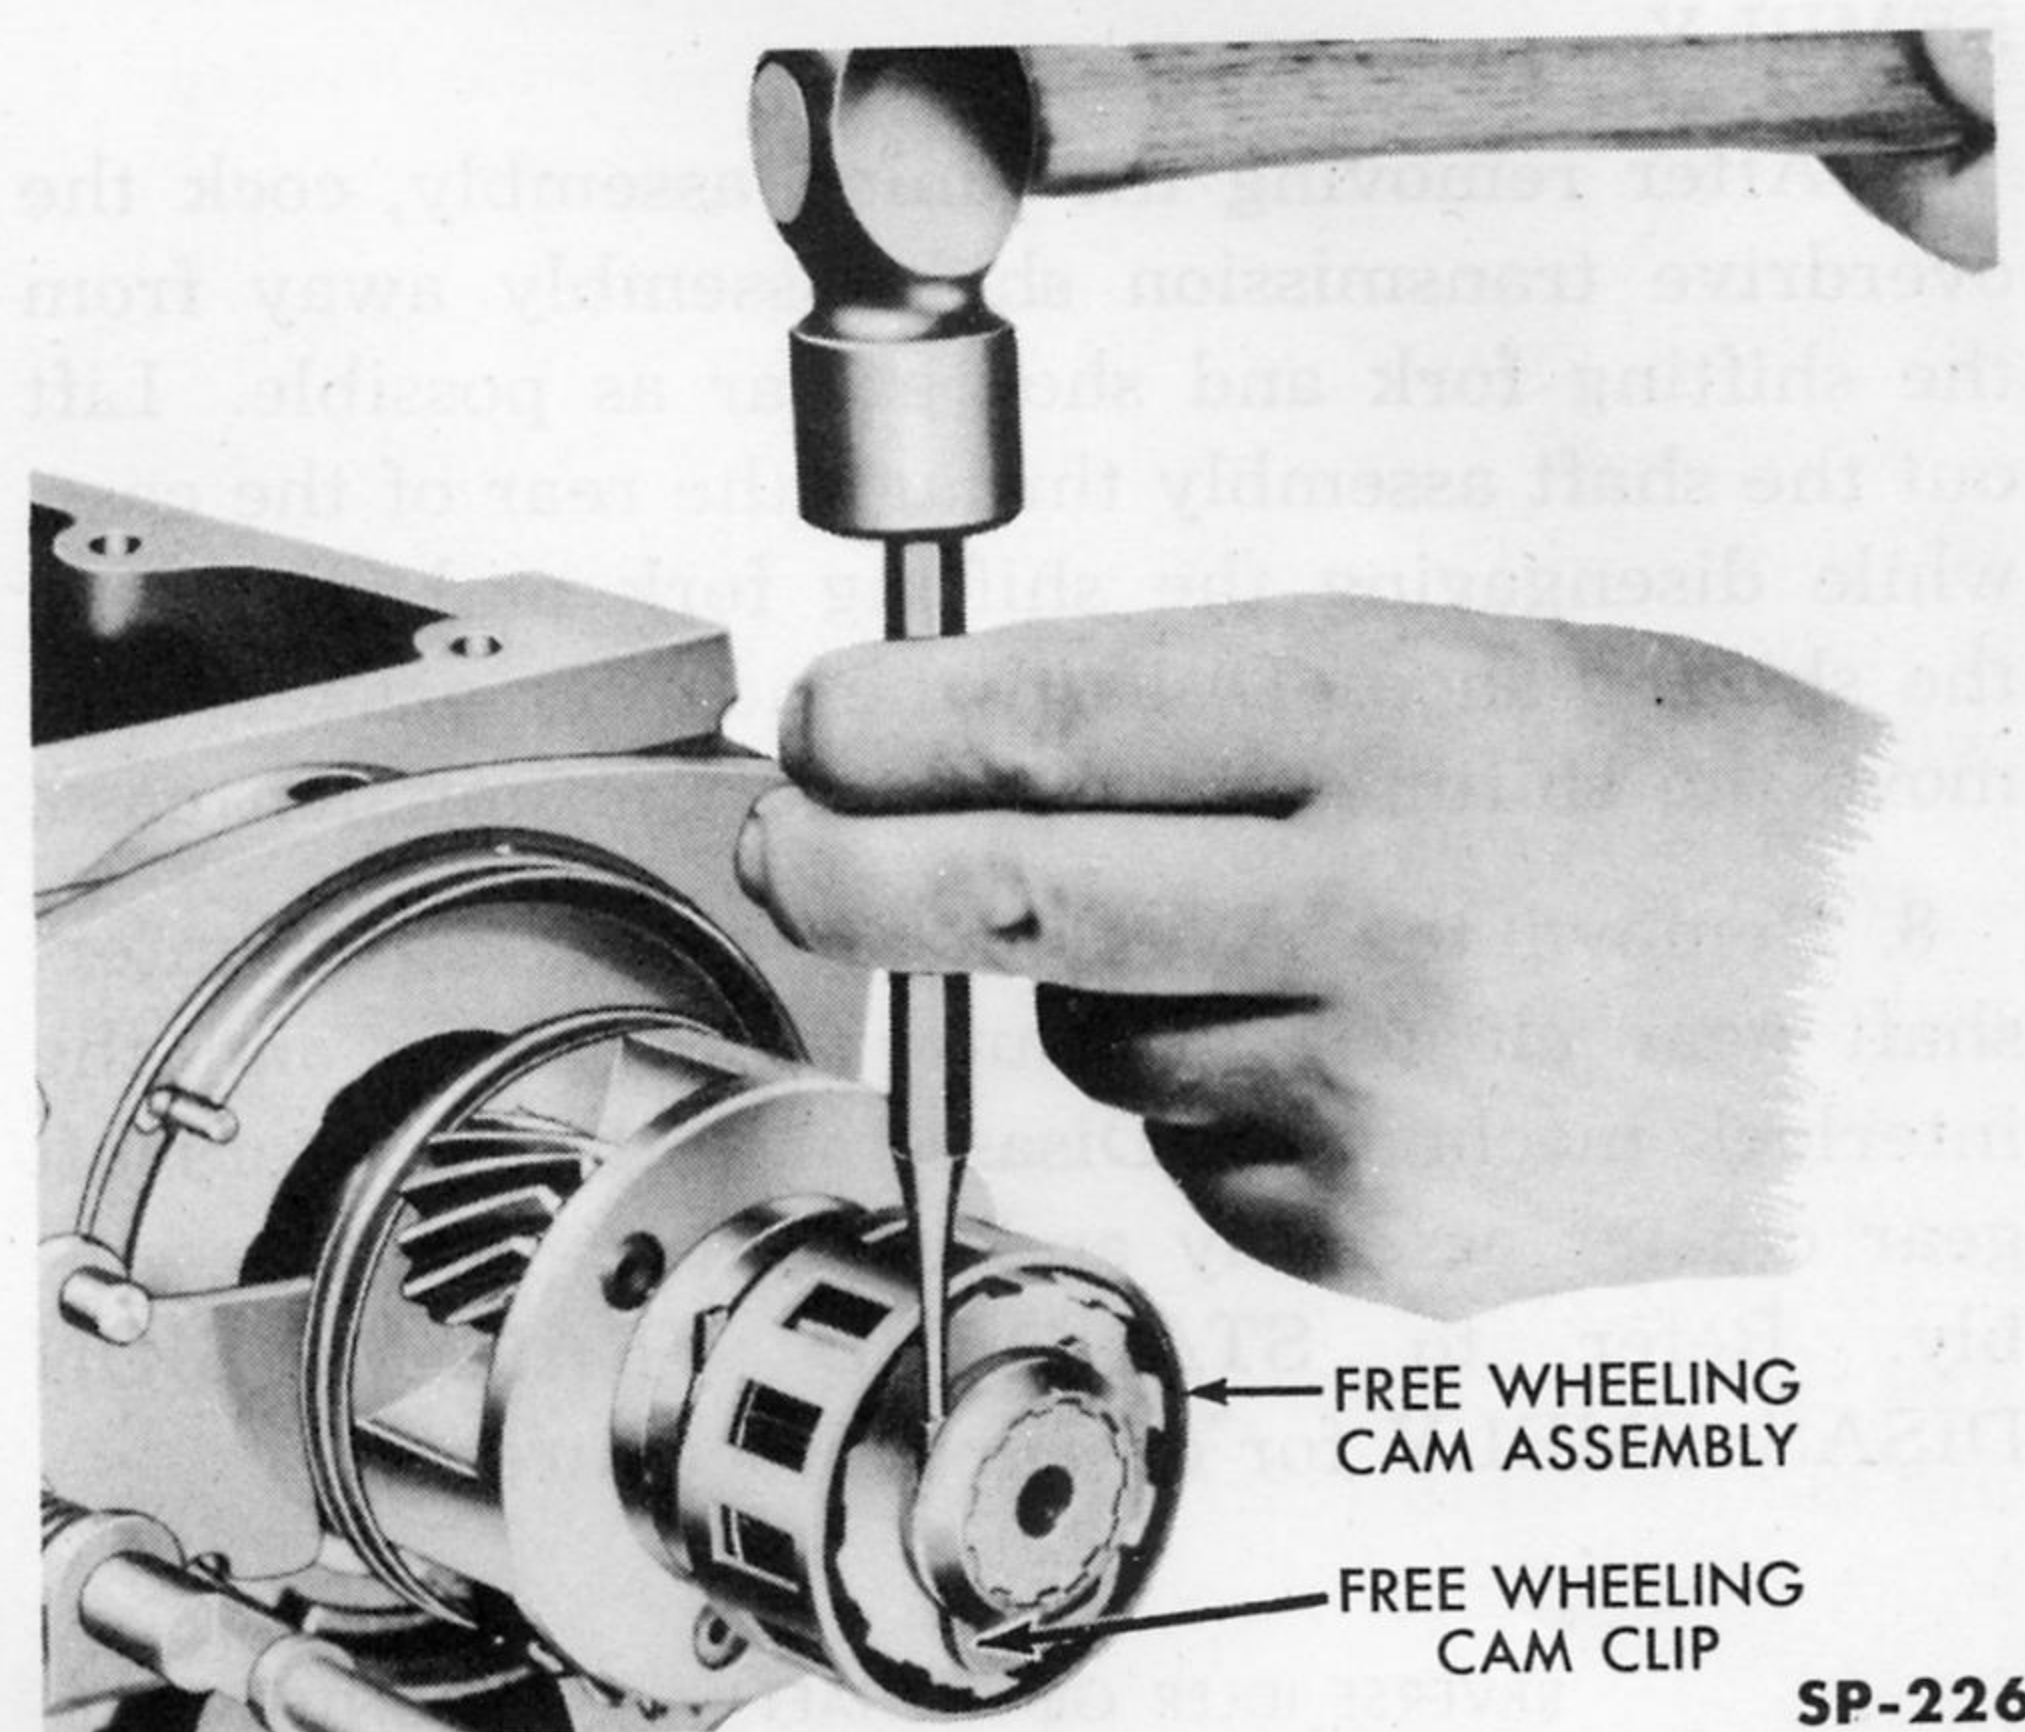

Fig. 215—Removing Free-Wheeling Cam Assembly
11. Remove the free-wheeling cam roller bearing and the two attaching clips. Remove the free-wheeling cam assembly from the overdrive transmission shaft (Fig. 215).